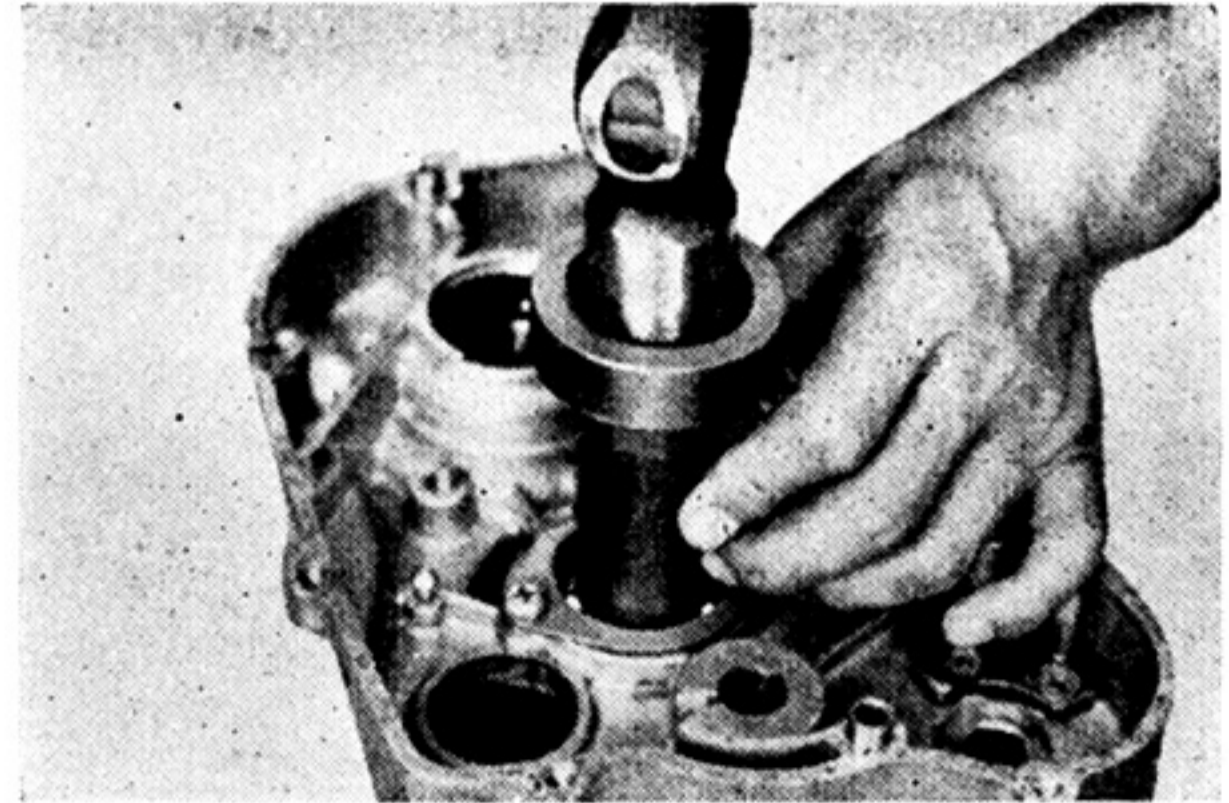

Fig. 3-17-3
- 2) Remove the bearings with the bearing removing tool. (Fig. 3-17-3)